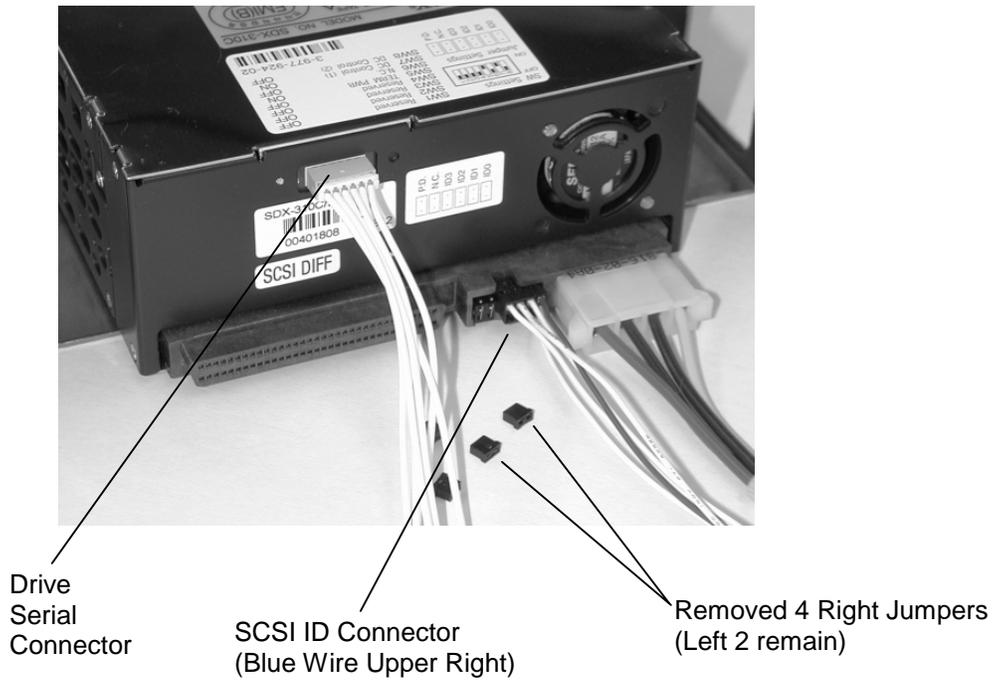

Figure 3-3 AIT Control Cable Details
4. Refer to Figure 3-3 and connect the AIT Control Cable to the drive's serial connector. This connector is keyed.